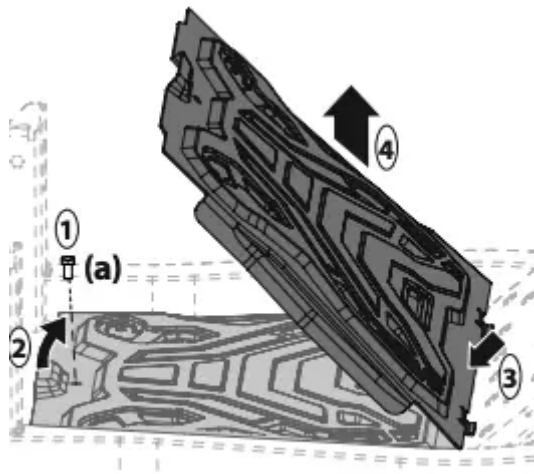

Figure 31
1. Using the multi-tool (if equipped) or a 1/2" socket, remove the hex screw (a) that secures the floor panel in place. See 1 in Figure 31.
2. Carefully lift the rear of the floor panel. See 2 in Figure 31.
3. Slide the floor panel rearward to free the front of the floor panel. See 3 in Figure 31.
4. Lift it off the tractor. See 4 in Figure 31.